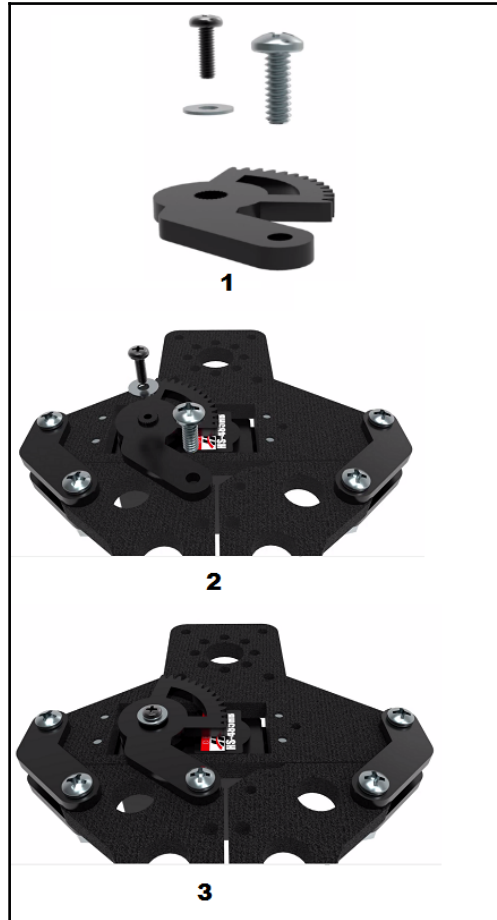

Figure 7.7: Assembling the right-side acetal gear arm. Image courtesy of ServoCity (<https://www.servocity.com/parallel-gripper-kit-a>)
9. Connect the right-side acetal gear arm as shown in *Figure 7.7*. The gear end of the acetal gear arm should be connected to the shaft of the servo with the washer and screw that you removed earlier: